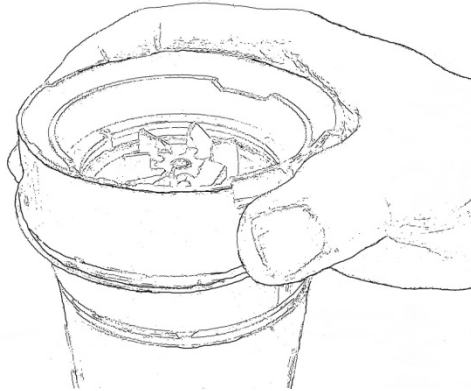

Fig. 5
7. Fit the blade assembly onto the jar and turn clockwise to secure (fig. 2). When fitting, grasp around the **side only** (fig. 5) – do not touch the blade or any part of the inner mechanism. Ensure the assembly is screwed on firmly; otherwise leakage or non-function may result.